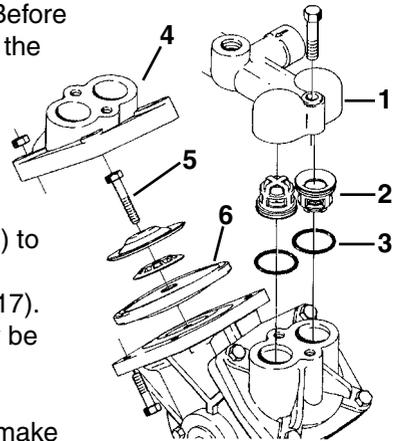

Fig. 17
1. Remove the valve cover **1** (Fig. 17). Before changing the valves **2** (Fig. 17), note the orientation of the valves so that they are replaced correctly.
2. It is recommended to use new O-rings **3** (Fig. 17) (part #330072) when changing or checking valves.
3. Remove diaphragm covers **4** (Fig. 17) to gain access to the diaphragms.
4. Remove the diaphragm bolts **5** (Fig. 17). The diaphragms **6** (Fig. 17) may now be changed.